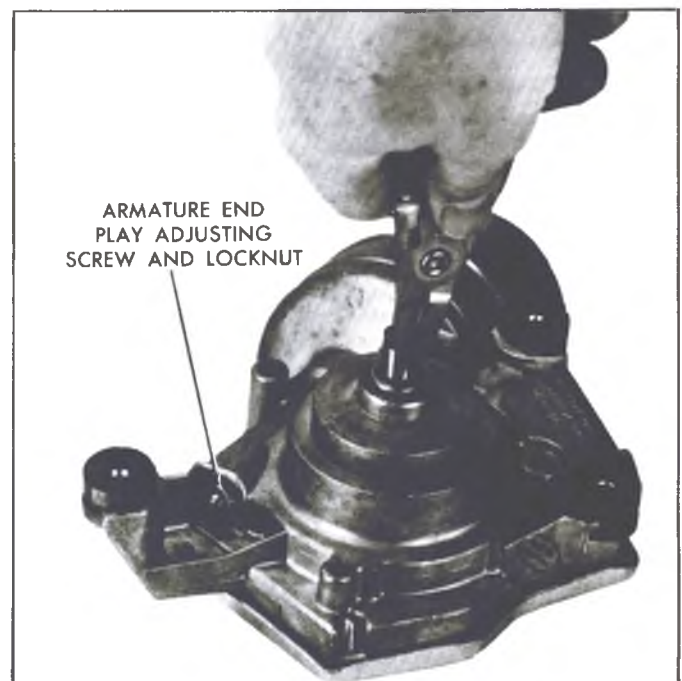
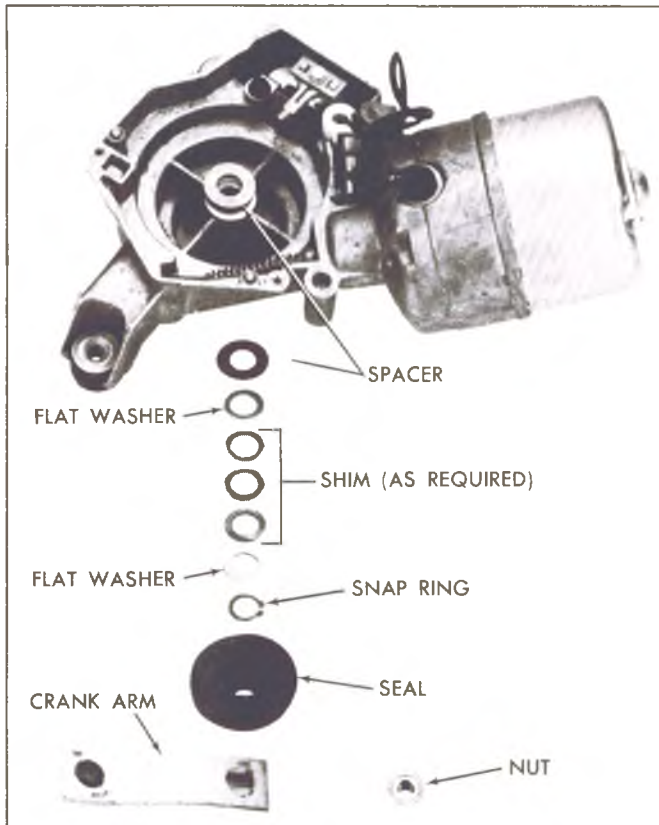

Fig. 26--"C" Ring Removal
Fig. 27--Assembly Above Drive Gear
4. Remove seal cap and using No. 22 External Snap Ring Pliers, remove the "C" retaining ring (fig. 26). Next, remove washer, end play washers, and outer spacer (fig. 27).
Loosen adjusting screw locknut (Figure 26) and tighten the adjusting screw until finger tight, tighten locknut.
Add end-play washers as required to obtain .005" minimum end-play (Figure 26).